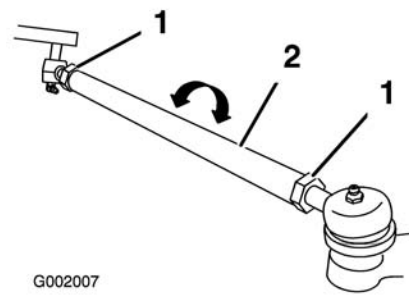

Figure 56
5. If the measurement does not fall within the specified range, loosen the jam nuts at both ends of the tie rods (Figure 56).